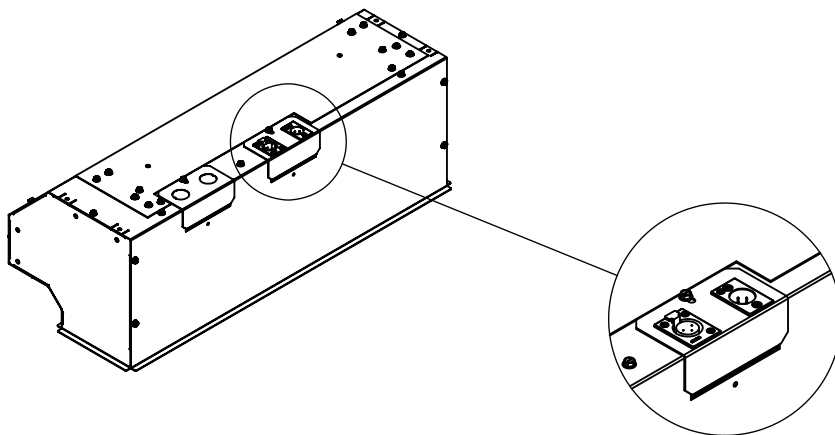

Figure 2
3. If the fixture requires digital control, the fixture will have locking XLR-type plugs for the control cables. Install the control wiring above the T-track grid. Male and female plugs are installed into receptacles (Figure 2) on each fixture; as they are wired in parallel, the control wiring can be daisy-chained. See the Control Wiring section.